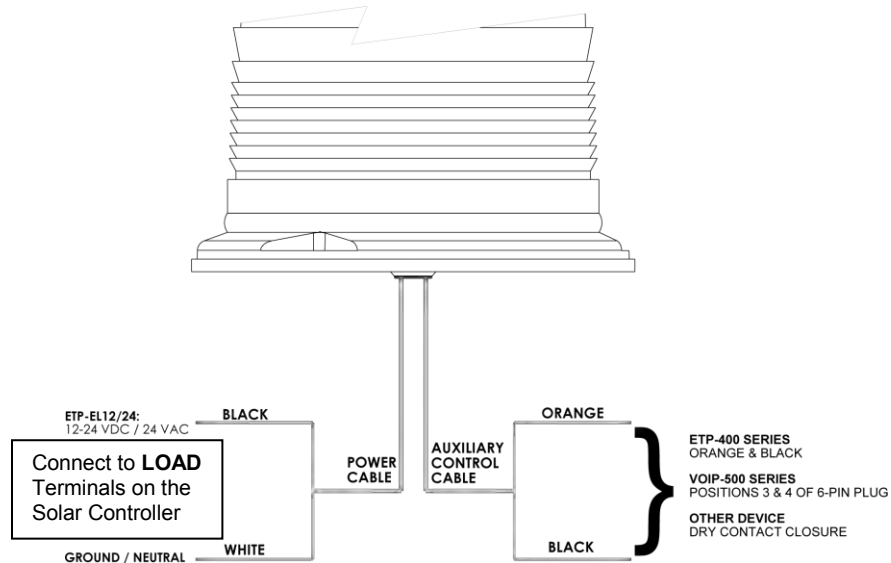

Figure 29. Electrical Connections to the ETP-EL 12/24 LED Blue Light
4. The LED Blue Light (as shown in **Figure 29**) and LED Panel Light power wires should be connected to the "LOAD" terminals on the controller.